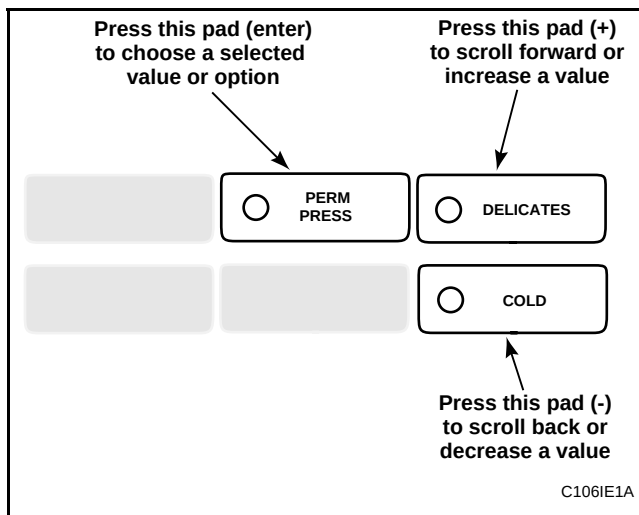

Figure 96
5. Press the DELICATES (+) or the COLD (-) keypad to increase or decrease the day until correct. See **Figure 96**.